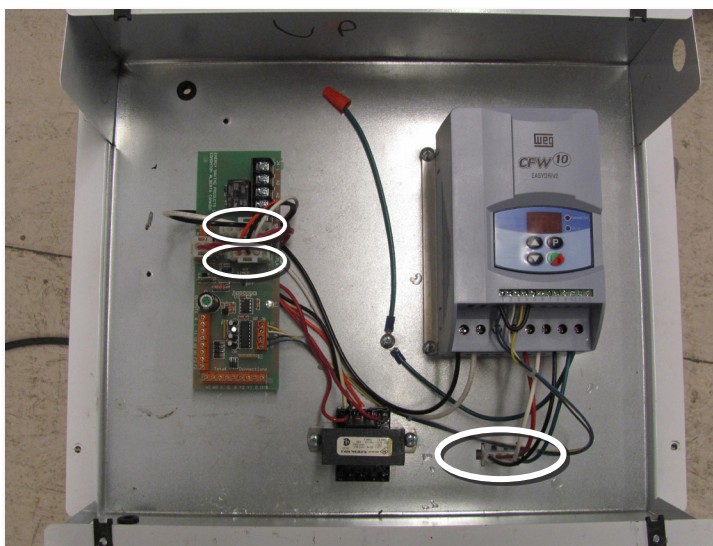

Fig. 9
9. Double check that all wires and wiring harnesses are connected. (Fig. 9)